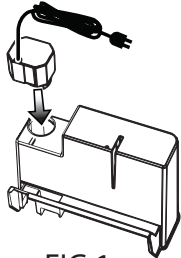
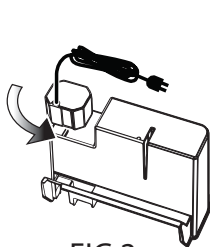

FIG 1
FIG 2
2) Remove power unit from packaging and install in filter box. Turn filter box upside down so that the lip of the filter box faces forward. (FIG 1) Position power unit so power cord faces forward. Push down on the power unit with a firm, even pressure so that "O" ring on power unit seats properly. Turn power unit counter-clockwise 90 degrees (1/4 turn) (FIG 2) until it snaps into place. (FIG 3)